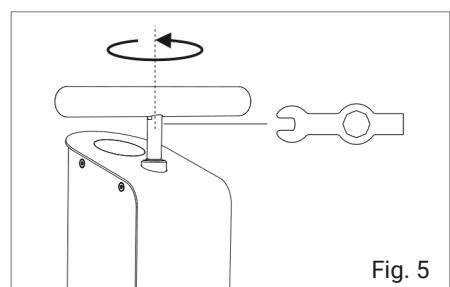

Fig. 5
- 1 To replace the complete manometer (17) or protective glass (19), you need the Veyhl Tool (1) and the manometer or protective glass spare parts set. First unscrew the pump handle (6). There are two notches for this directly under the handle on the bolt of the air pump. Hold the bolt with the Veyhl tool and unscrew the handle with your free hand (Fig. 5).
- 12 Finally, screw the pump handle back onto the bolt of the air pump. To do this, hold the bolt with the Veyhl tool and tighten the handle with your free hand (Fig. 5).